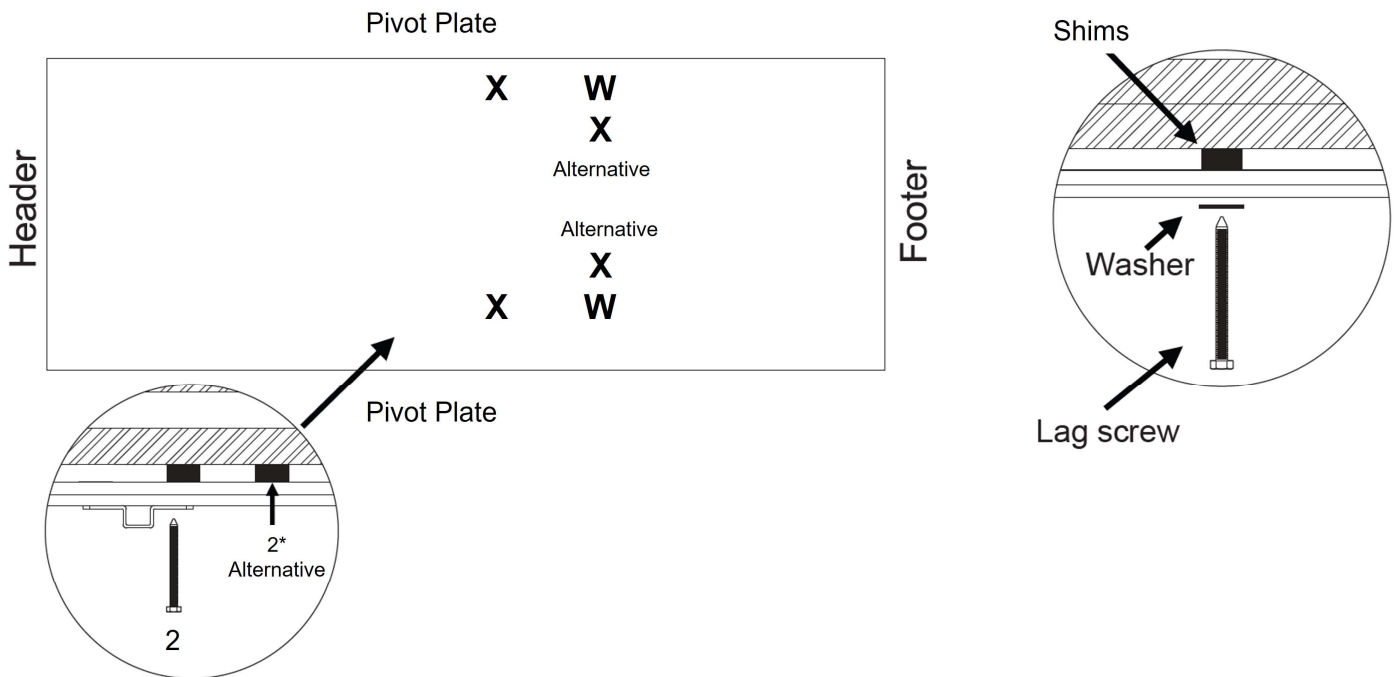

FIGURE 25 : SECURING SIDE FRAME RAILS
U. Installer #1 and #2: Position shims from above and below at the 2 pre-drilled pivot plate holes on each frame side rail at position 2 (See **Figure 24**). The shims should provide uniform support so there is no twisting or bowing of the aluminum frame. Drill 5/32" diameter by 3" deep pilot holes into the ceiling joists through the bushings at position 2. Install the 2 lag screws to secure the attic ladder (see **Figure 25**).